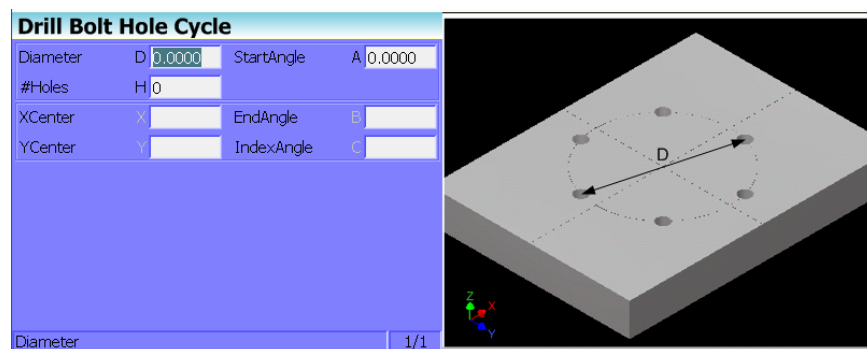

Figure 4-8, Drill Bolt Hole Cycle Graphic Menu
2. Select **BoltHole** from the pop-up menu and press **ENTER** to display the Drill Bolt Hole Cycle Graphic Menu. Refer to **Figure 4-8**.